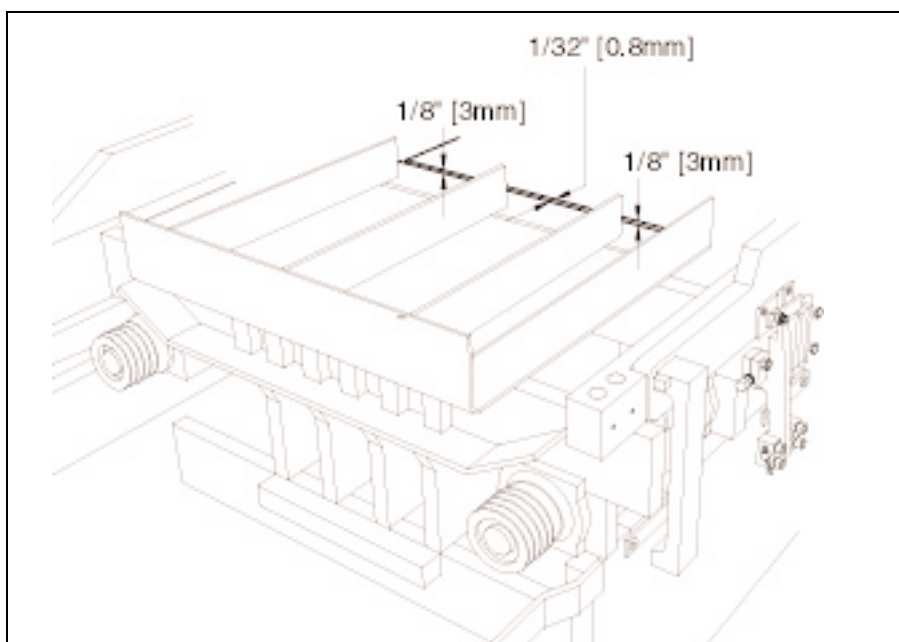

Figure 5.24 APRON PLATE CLEARANCE.
- 5.6.2 Check to see that there is approximately 1/32" [0.8mm] clearance between the apron plate and the back of the mold top plate (see figure 5.24 and 5.25).